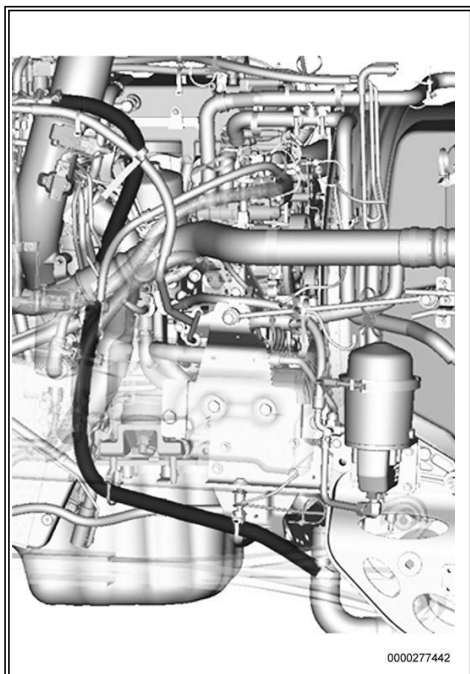

Figure 16: Sleeper Heater Hose Existing Routing.
2. Remove sleeper heater hose from bottom radiator hose (Figure 16) .